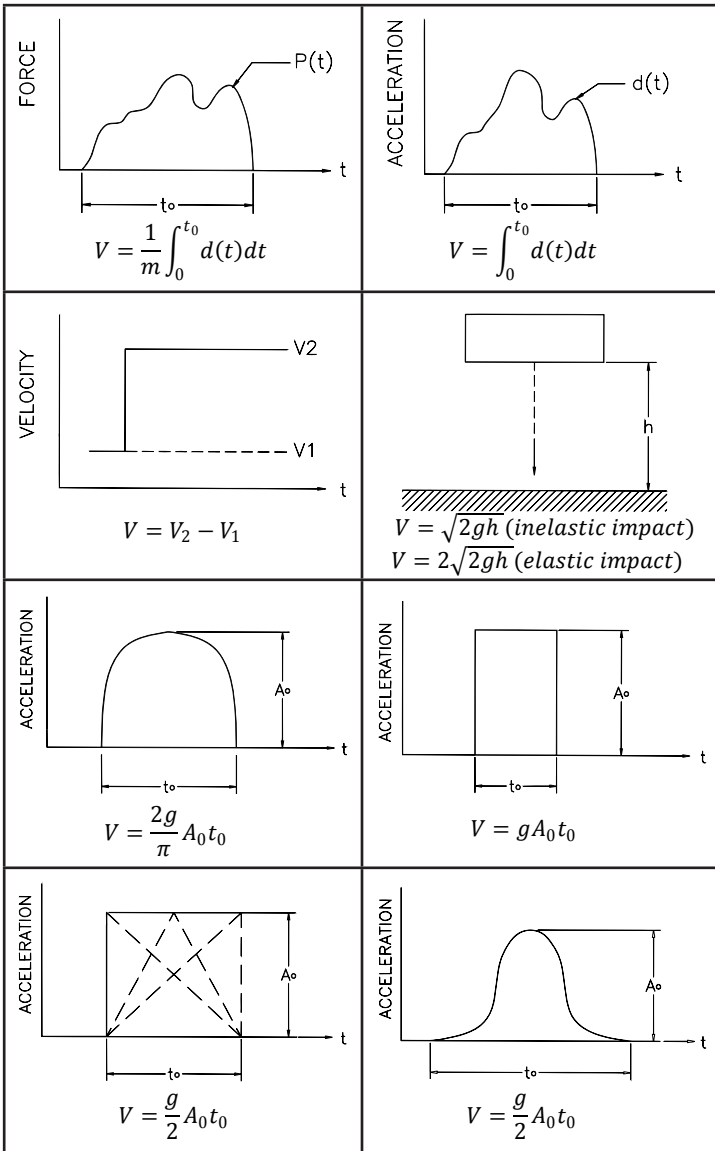

Figure 10
A convenient way to analyze shock problems is to use the velocity change method. Figure 10 gives equations to calculate the velocity change (V) for various shock excitations.
$$\text{From Figure 10, } V = \sqrt{2gh}$$